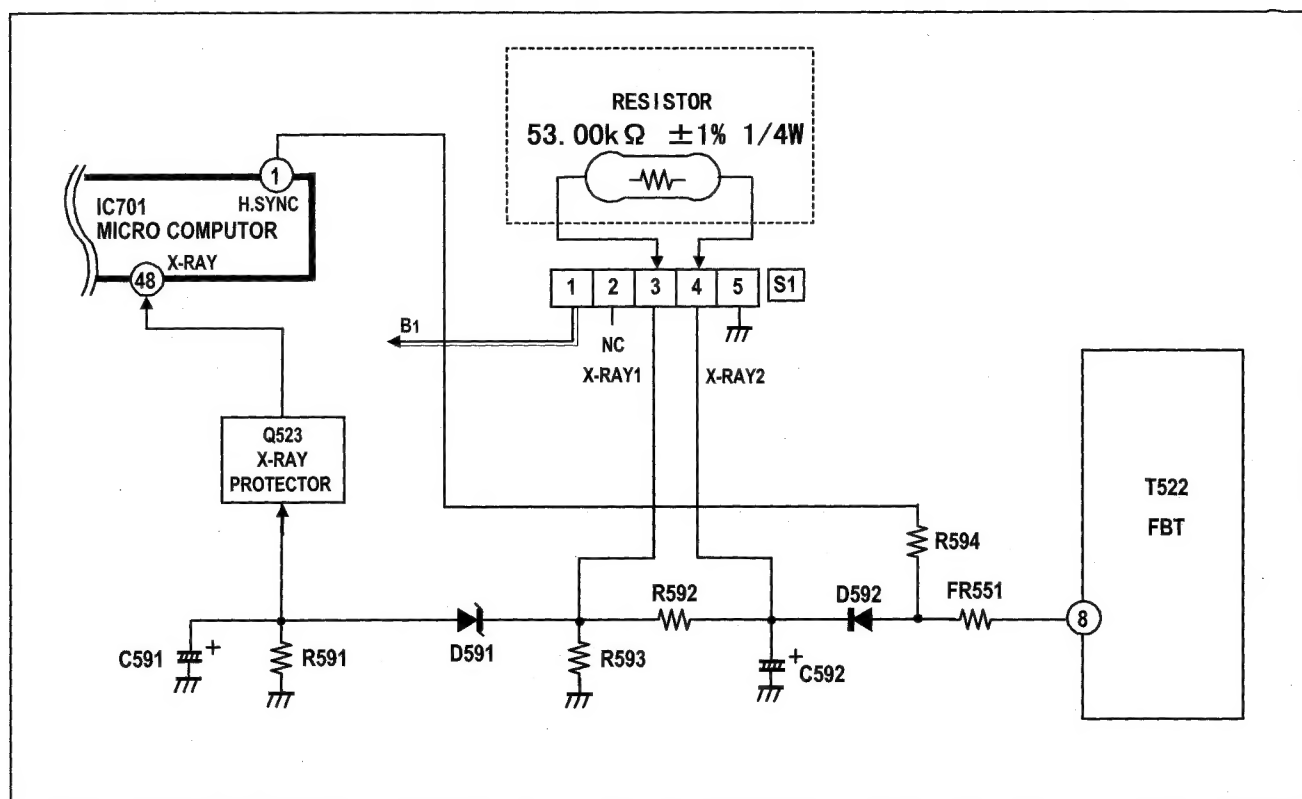

Fig. 1
After repairing the high voltage hold down circuit shown in Fig. 1.
- (1) Turn the POWER SW ON.
- (2) As shown in Fig.1, set the resistor (between [S1] connector [3] & [4]).
- (3) Make sure that the screen picture disappears.
- (4) Temporarily unplug the power cord.
- (5) Remove the resistor (between [S1] connector [3] & [4]).
- (6) Again plug the power cord, make sure that the normal picture is displayed on the screen.